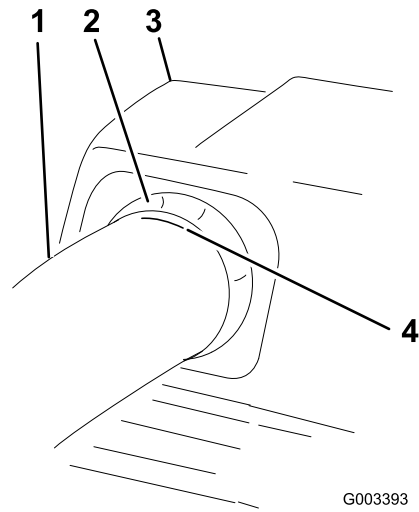

Figure 22
6. Once the 19 mm (3/4 inch) measurement has been achieved, mark the upper tube on the outside where the rubber seal protrudes out (Figure 22).
Make sure that the mark from Figure 22 is still in place.